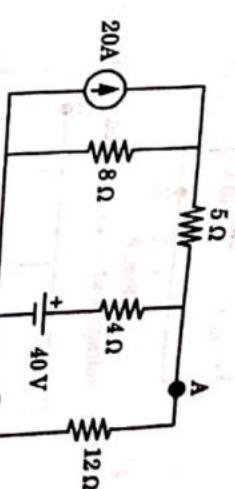

Fig. 6.
3. Give the statement of Norton's Theorem. Find the current in 12 ohm resistance using Norton's theorem for the given circuit in Fig. 6.